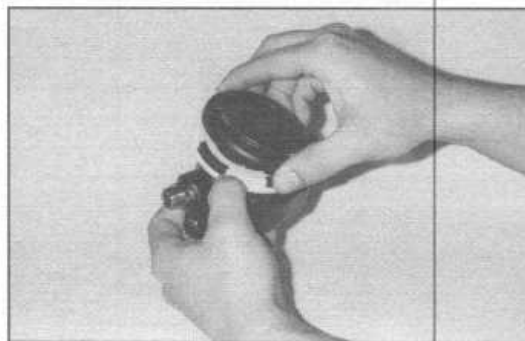

FIG 6-2
3. Remove the diaphragm cover (22) by using your finger nail to gently depress the locking tang located on the diaphragm retainer (23) and twisting the cover 1/8 turn counterclockwise. Refer to figure 6-2.
4. Remove the diaphragm retainer (23) by gently prying upwards all around until both the retainer & the diaphragm come off as an assembly. Remove and inspect the